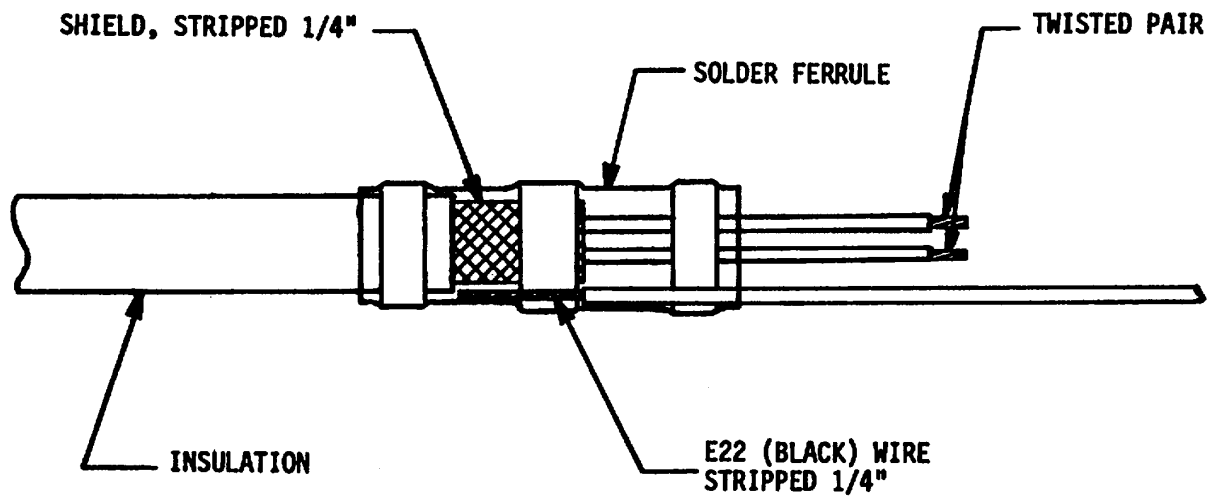

FIGURE 4
- REMOVE INSULATION 1 1/2 TO 2 INCHES PAST SHIELD. PLACE SOLDER FERRULE OVER SHIELD AND APPLY HEAT GUN UNTIL SOLDER FLOWS. DO NOT MOVE WIRES WHILE HOT. SEE FIGURE 4.